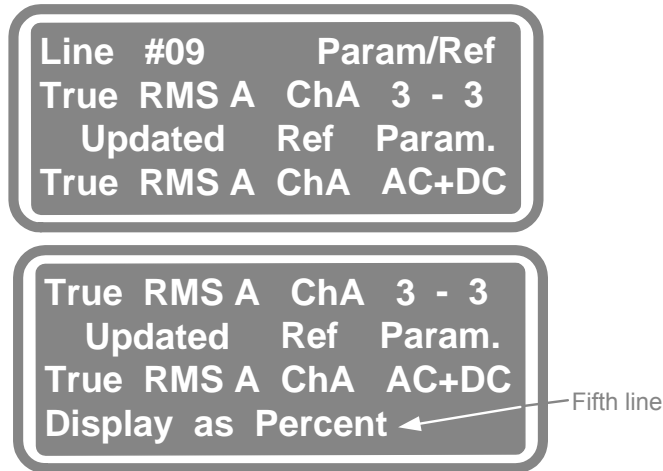

Figure 23. Choosing Harmonic Percent
4. Use the **▼** key to scroll to the fifth line, which allows the display to be defined in Percent, Ratio, Units, or dB. This allows you to change the display to be percentages of the selected reference. See Figure 23.